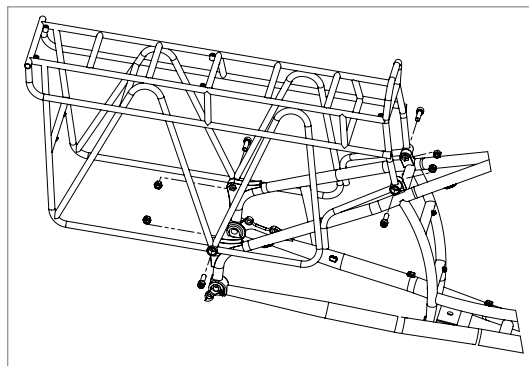

Figure 2
6. Using a torque wrench with a 6 mm hex key bit, tighten all four rack fixing bolts to 10 Nm (Fig. 2).